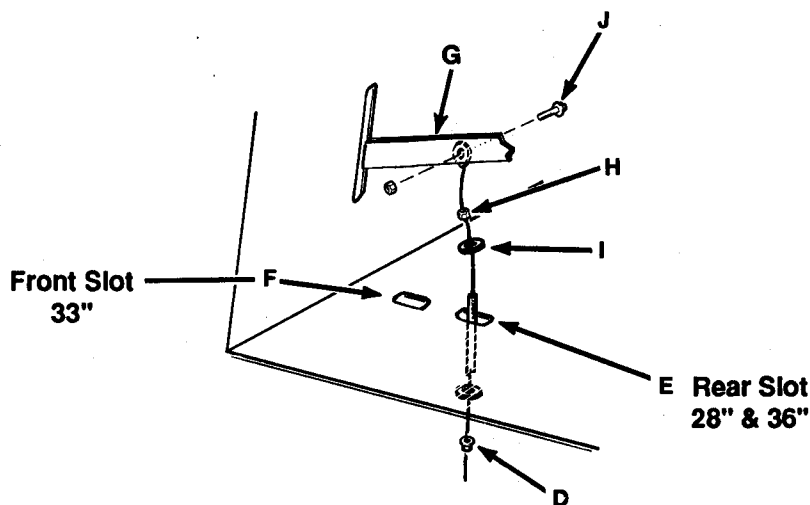

Fig. 13
1. Thread nut (D, Fig. 13) downward on cable threads until it stops.
2. Thread nut (H) and washer (I) upward and off cable assembly.
3. **28" & 36" DECKS ONLY:** Insert cable, nut (H) and washer (I) upward through rear slot (E) in frame.
4. Place nut (H) and washer (I) at top of slot and screw down tightly, securing cable assembly to frame.
5. Connect cable to the mower blade drive (PTO) lever (G). Fasten cable to the right side of PTO lever when facing toward front of rider. Secure with screw (J) and nut as shown in Fig. 13. Tighten screw, but allow some play so cable may pivot.